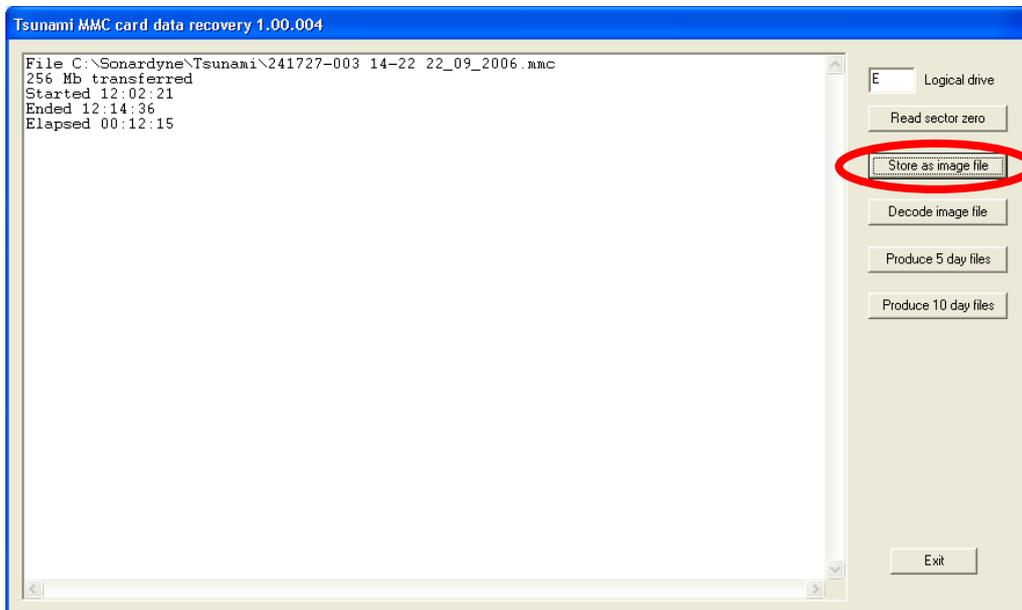

Figure 5 - MmcDataRecover.exe with Store as image file highlighted
- 4. Click < **Store as image file** >.(Figure 5) This will take several minutes to complete. The image file will be stored in c:\sonardyne\tsunami, and will have a *.mmc filename, comprising the serial number of the endcap, the time and date the card was initialised, e.g: